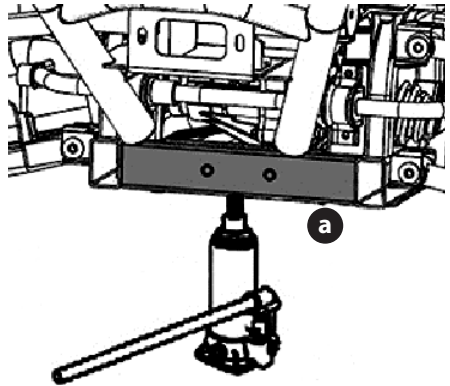

Figure 16
1. Jack up the front end of the utility vehicle on the front frame tube (a) only (Figure 16 on page 20).